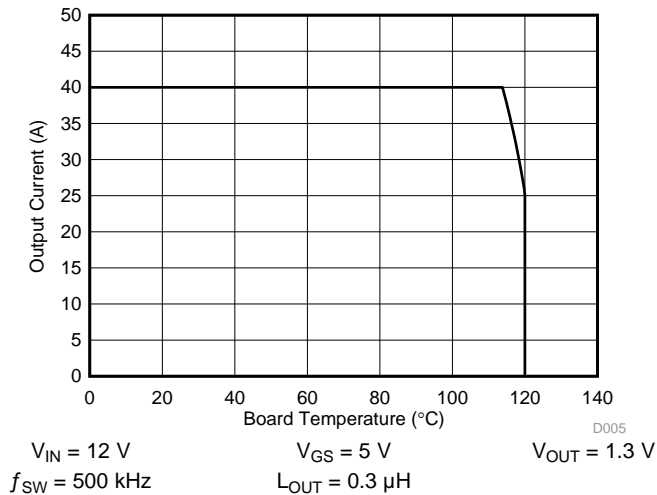

Figure 3. Typical Safe Operating Area (SOA)
$T_J = 125^\circ\text{C}$, unless stated otherwise. The typical power block system characteristic curves and Figure 3 are based on measurements made on a PCB design with dimensions of 4 in (W) \times 3.5 in (L) \times 0.062 in (H) and 6 copper layers of 1-oz copper thickness. See Application and Implementation section for detailed explanation.
The SOA curves in the CSD86356Q5D data sheet provides guidance on the temperature boundaries within an operating system by incorporating the thermal resistance and system power loss. Figure 3 outline the temperature and airflow conditions required for a given load current. The area under the curve dictates the safe operating area. All the curves are based on measurements made on a PCB design with dimensions of 4 in (W) \times 3.5 in (L) \times 0.062 in (T) and 6 copper layers of 1-oz copper thickness.